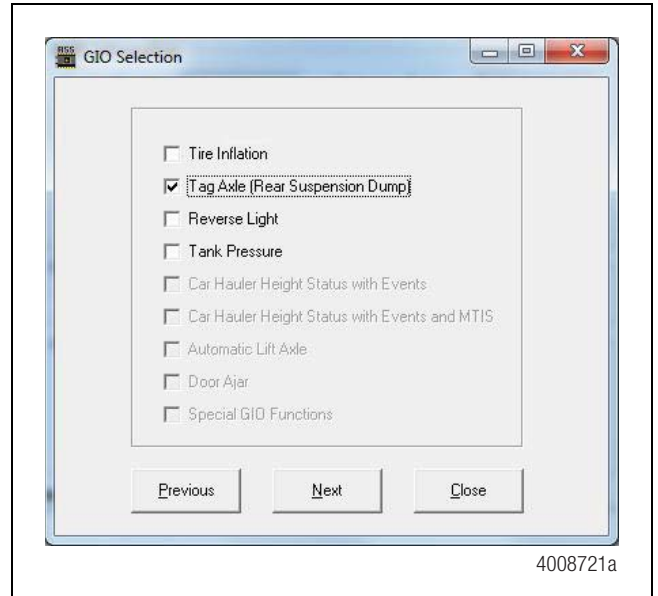

Figure 11
- The *GIO Selection* screen appears. Click the **Tag Axle (Rear Suspension Dump)** check box. Ensure that a check mark appears in the box. Then, press the **Next** button at the bottom of the screen. Figure 11.